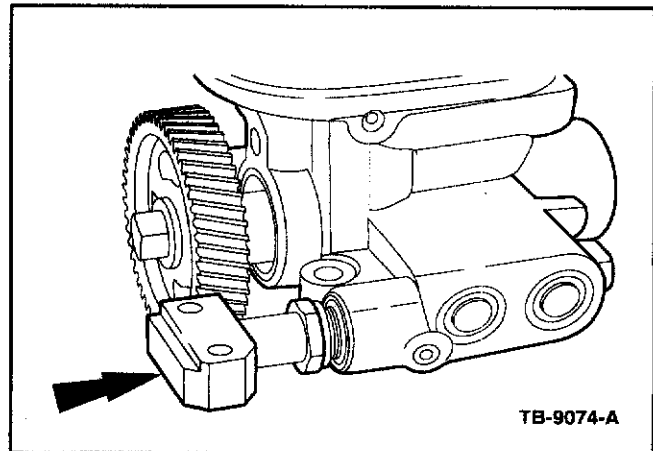

Figure 8 - Article 08-9-9
6. Install the branch tube adapter into the high-pressure oil pump by threading it five (5) complete turns to set proper depth and set proper orientation. Do not tighten the jam nut at this time. (Figure 8)